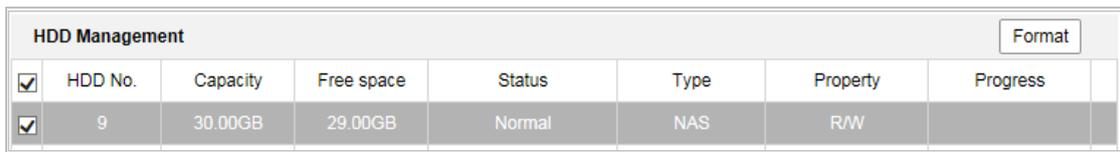

Figure 5-7 View Disk Status
3. When the initialization completed, the status of disk will become **Normal** as shown in Figure 5-7.